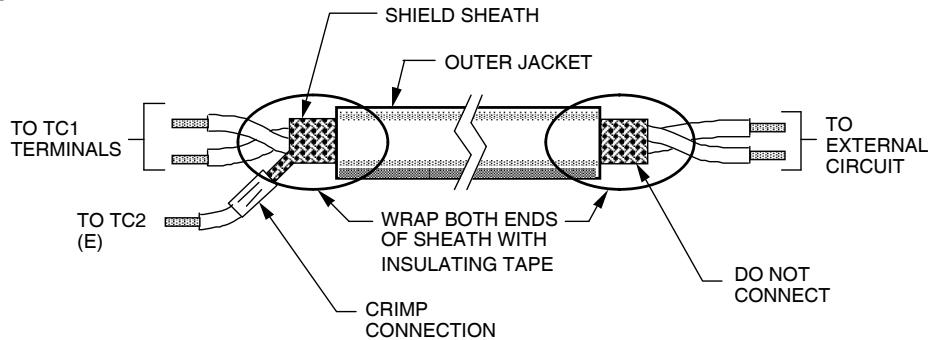

Figure 4-2. Shielded Wire Termination
- Figure 4-2. Shielded Wire Termination